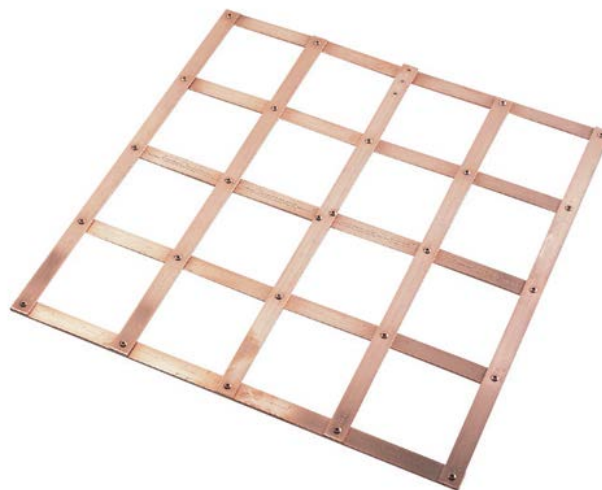

Figure 1 – Typical earth mat construction
- When more than one earth mats (as shown in Figure 1) is to be installed, wherever possible, install an earth mat on either side of the apparatus housing and as close as possible to it, but such that the mats are separated by at least twice the longer side of the either of the adjacent earth mats;